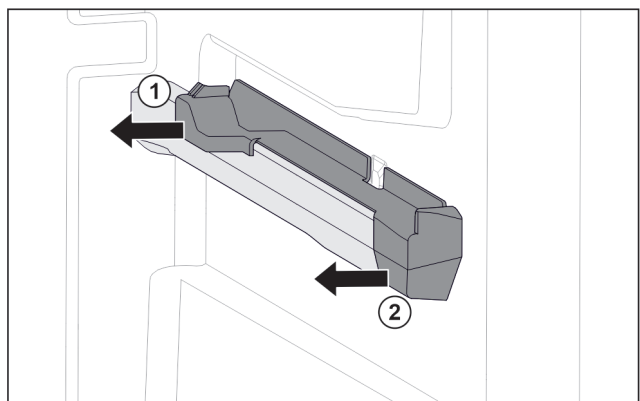

Fig. 123 Attachment on the right moulded rib
- ▶ Pull off attachment at the back sideways. *Fig. 123 (1)*
- ▶ Pull off attachment at the front sideways. *Fig. 123 (2)*